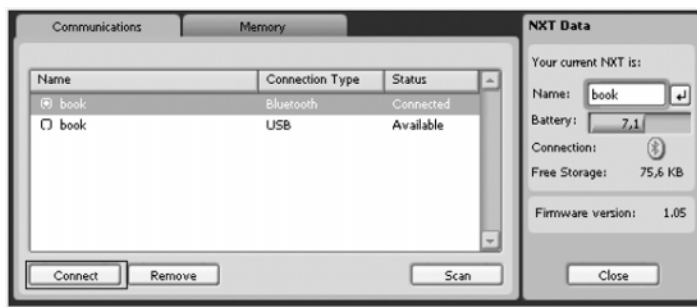

Figure 2-11. *The NXT is connected.*
- Once the connection is established, the NXT window looks like the one shown in Figure 2-11; the NXT is reported twice in the list in that figure, because both USB and Bluetooth found it. Once an NXT has been connected, it will be present in the list unless you remove it by clicking the Remove button. As you can see, in this panel you can rename your NXT by typing a new name in the appropriate text field and clicking the Enter button. This window also shows some diagnostic information, such as the battery level, the free FLASH memory amount, and the firmware version. Close the panel and you can start programming your robot.